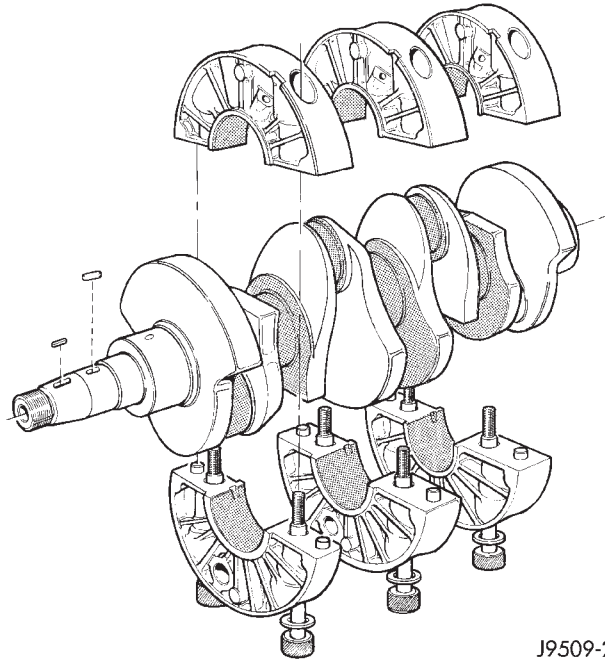

Fig. 56 Crankshaft and Carrier Bearing Assembly
(22) Separate the two halves of each carrier, remove from the crankshaft and temporarily re-assemble the carriers (Fig. 56). Withdraw the crankshaft through the rear of the crankcase.
(5) Thoroughly clean crankcase and oil passages, and blow dry with compressed air.
(6) Install new main bearing shells in each of the carrier halves. Assemble the carriers to the crankshaft journals, ensuring that the carriers are installed in their original locations and that the **piston jet notch is towards the front of the crankshaft**. Secure each carrier with the two bolts tightening evenly to 42 N·m (31 ft. lbs.). Check that the oil jet is in position (Fig. 56).